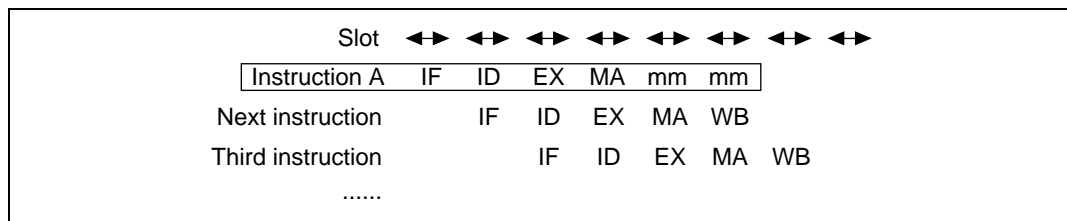

Figure 10.31 Multiplication Instruction Pipeline
The pipeline has six stages: IF, ID, EX, MA, mm, and mm (figure 10.31). The MA accesses the multiplier. The mm indicates that the multiplier is operating. The mm operates for two cycles after the MA ends, regardless of the slot. The MA of the MULS.W instruction, if it contends with IF, operates as described in section 10.2.1, Contention between Instruction Fetch (IF) and Memory Access (MA).